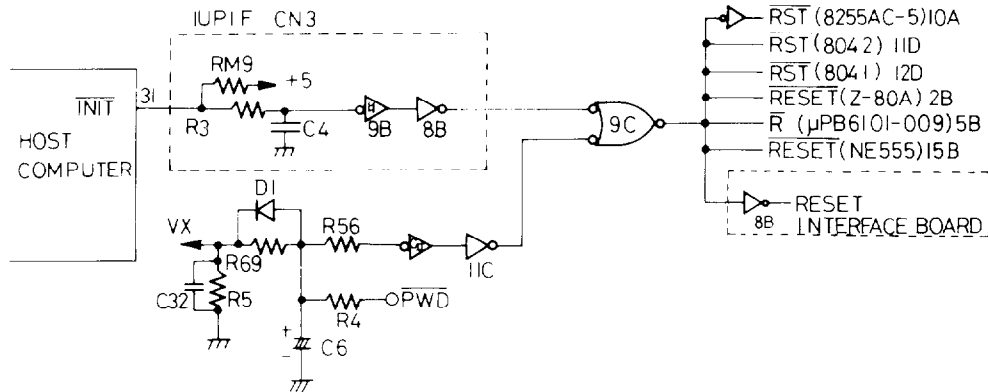

Fig. 2.18 Reset circuit
2.4.2 Reset circuit(Fig. 2.18)